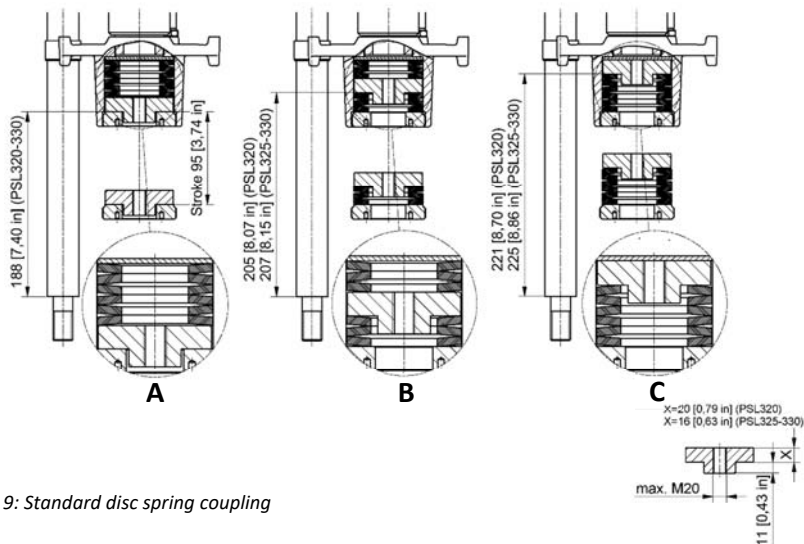

Figure 9: Standard disc spring coupling
- Unscrew the locking nut (item 5) from the spindle nut (item 1) and slide it over the valve stem (item 9).
- See if the bore of the coupling piece (item 3) fits to the valve stem. If necessary, rebore and/or recut the thread.
- Slide or screw the coupling piece onto the valve stem and bore or pin to the valve stem. You may also secure the coupling piece by using a counter nut (item 4) (Lay the disc springs according to Figure 9 on page 12).
- Slide the pillars into the bore holes of the mounting bracket (item 6) and tighten with the pillar nuts (item 7).
- A: Arrangement for a through-valve with "Valve stem retracting" as direction of closing (*Figure 9*).
- B: Arrangement for a 3-way valve (*Figure 9*).
- C: Arrangement for a through valve with "Valve stem extending" as direction of closing (*Figure 9*).